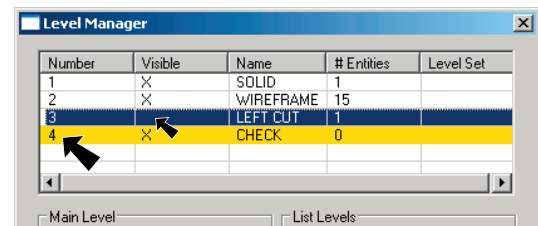

Fig. 45
Step 3. Click the **4** in the Number column to make **Level 4 CHECK** active, **Fig. 45**.
Step 4. **Turn off the LEFT CUT surface level.** The surface will be used later when the left cut toolpath is created. To turn off level, click the X in the Visible column to remove the X in **LEFT CUT**. Click OK  when done, **Fig. 45**.